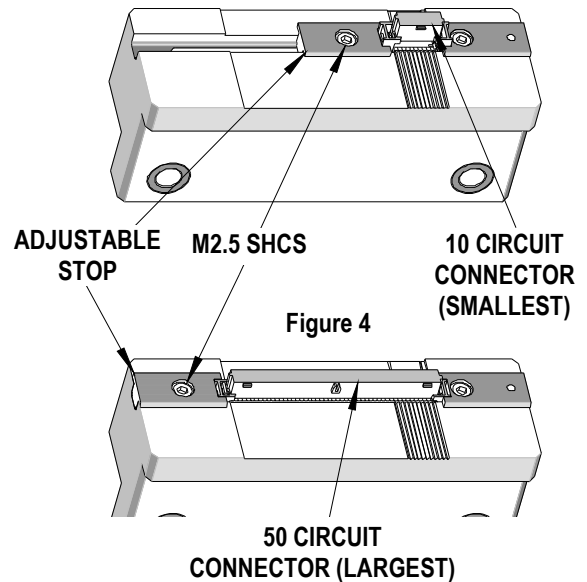

Figure 4
2. Place the proper connector into the nest against the end stop. See Figure 4.